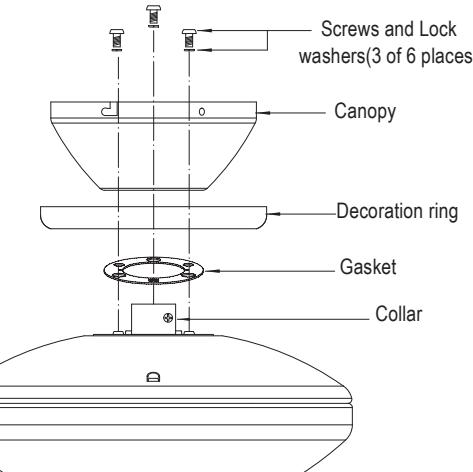

Fig. 8
**Step 1.** Pass the 120-volt supply wires through the center hole in the ceiling hanger bracket as shown in Fig. 8.